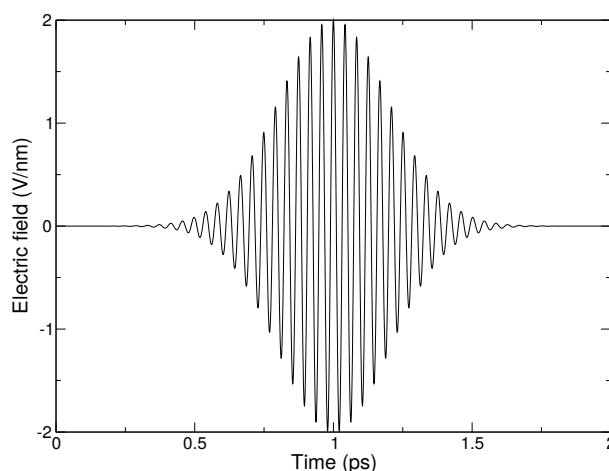

Fig. 5.47: A simulated laser pulse in GROMACS.
This simulated laser-pulse was applied to simulations of melting ice 146 (page 517). A pulsed electric field may look like Fig. 5.47. In the supporting information of that paper the impact of an applied electric field on a system under periodic boundary conditions is analyzed. It is described that the effective electric field under PBC is larger than the applied field, by a factor depending on the size of the box and the dielectric properties of molecules in the box. For a system with static dielectric properties this factor can be corrected for. But for a system where the dielectric varies over time, for example a membrane protein with a pore that opens and closes during the simulation, this way of applying an electric field is not useful. In such cases one can use the computational electrophysiology protocol described in the next section (sec. *Computational Electrophysiology* (page 461)).
yields an pulsed-oscillating electric field with  $E_0 = 2$  V/nm,  $\omega = 150/\text{ps}$  and  $t_0 = 5$  ps and  $\sigma = 1$  ps. Read more in ref. 146 (page 517). Note that the input file format is changed from the undocumented older version. A figure like Fig. 5.47 may be produced by passing the `-field` option to `gmx mdrun` (page 112).